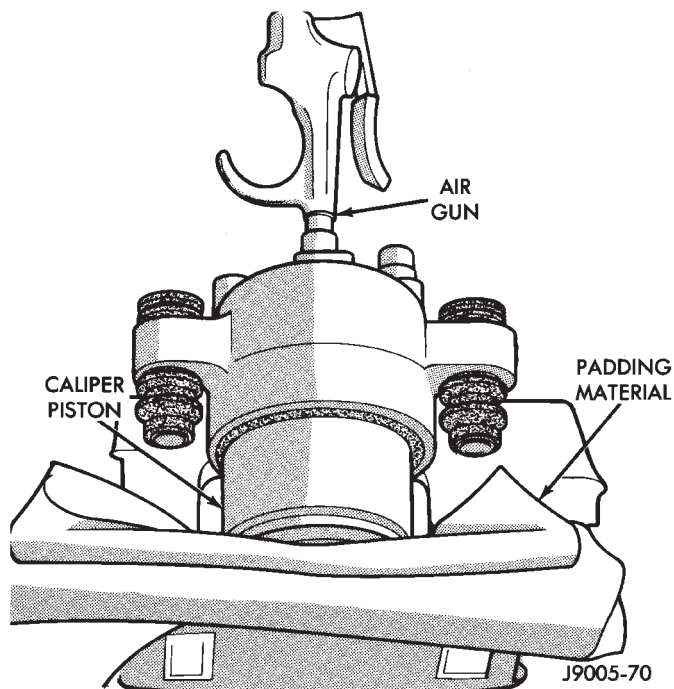

Fig. 16 Removing Caliper Piston
- (3) Remove caliper piston with **short bursts** of low pressure compressed air. Direct air through fluid inlet port and ease piston out of bore (Fig. 16).